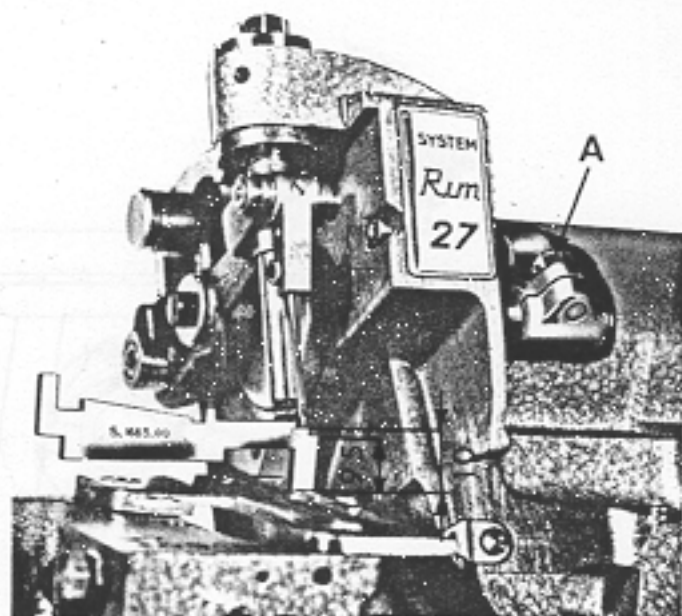

fig. 3
### 3. Positioning the needle (fig. 3).
- If adjustment of the needle clamp is necessary, loosen bolt A (fig. 3) and set distance with gauge S. 1665.00